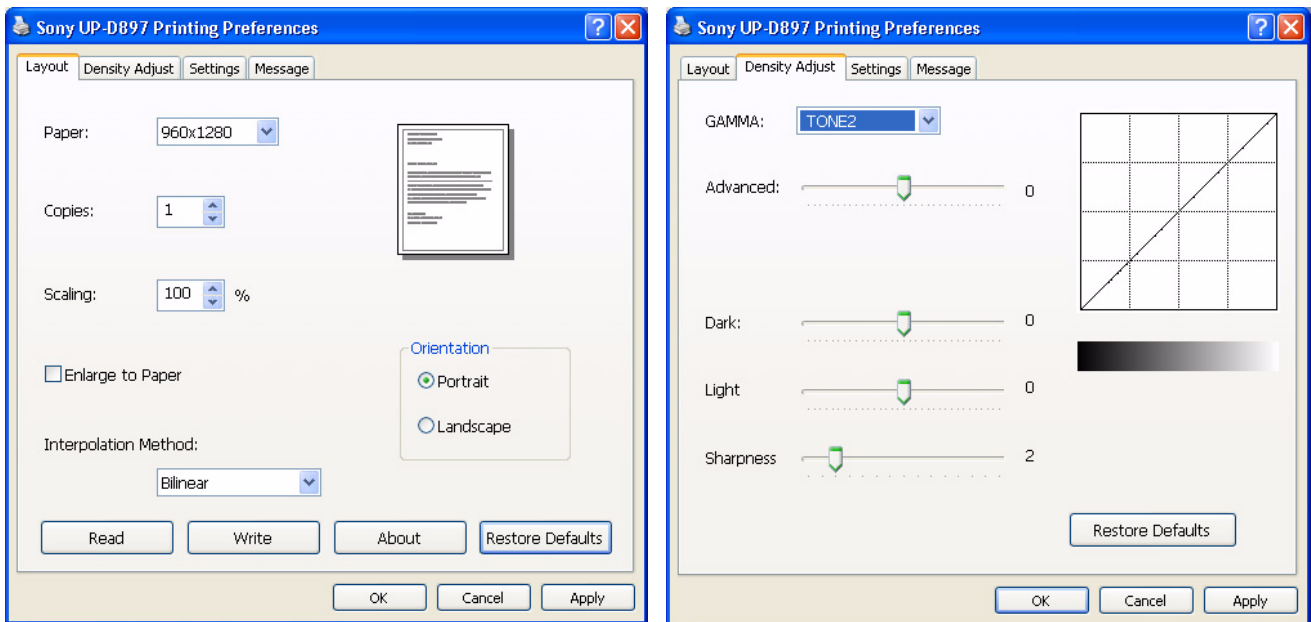

Figure 3-114 Layout + Density Adjust page
- 2.) Select the LAYOUT page (see: Figure 3-114 below) and select:
- 3.) Select the DENSITY ADJUST page (see: Figure 3-114, above) and select: